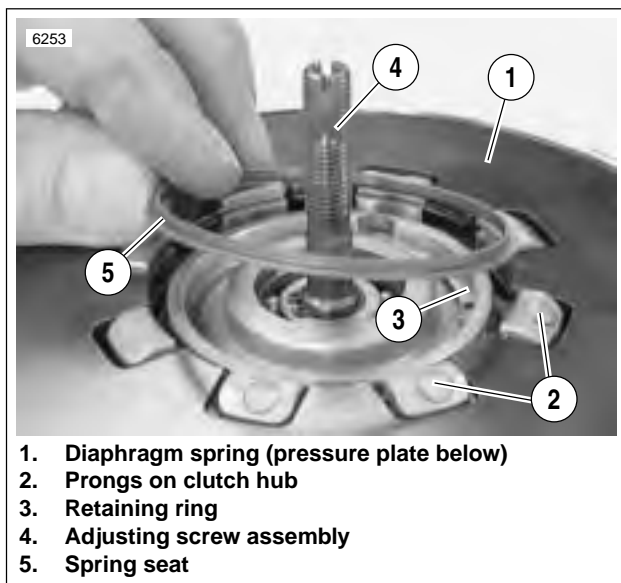

Figure 6-19. Spring Seat Installation
- a. See Figure 6-19. Align square openings of pressure plate and diaphragm spring so that the assembly can be installed over prongs of clutch hub.
- b. See Figure 6-19. Position diaphragm spring with its concave side facing toward pressure plate onto pressure plate assembly.